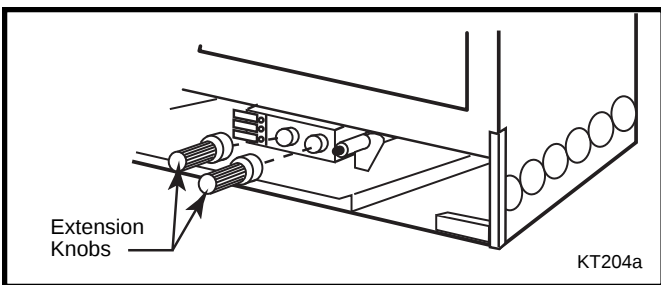

Fig. 49 Install the knob extensions. (Only for RN/RP models)
- c. Install the Control Knobs Extensions onto the appropriate Control Valve Knobs (Fig. 49)
On units fitted with a Honeywell brand control valve the location of the control knobs and the ignitor button may vary slightly from those shown in Figure 49. The Honeywell extension pieces are visually different in design and are not interchangeable with the RN/RP knobs shown in Figure 49.
- c. Install the Control Knobs Extensions onto the appropriate Control Valve Knobs. (Fig. 49)